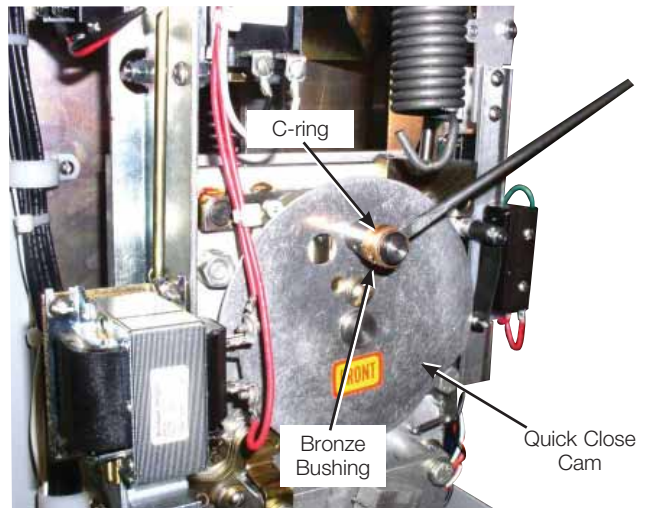

Figure 25.
- b.** Remove and discard the C-ring and bronze bushing from the crank lever. Refer to Figure 25.